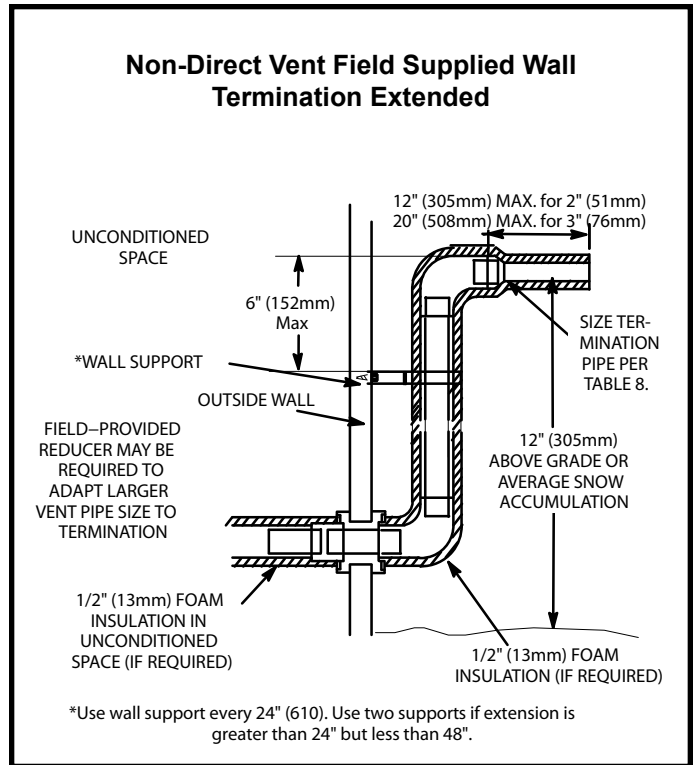

Figure 48
3. If exhaust piping must be run up a sidewall to position above snow accumulation or other obstructions, piping must be supported every 24" (610 mm) as shown in Figure 48. When exhaust piping must be run up an outside wall, any reduction in exhaust pipe size must be done after the final elbow.